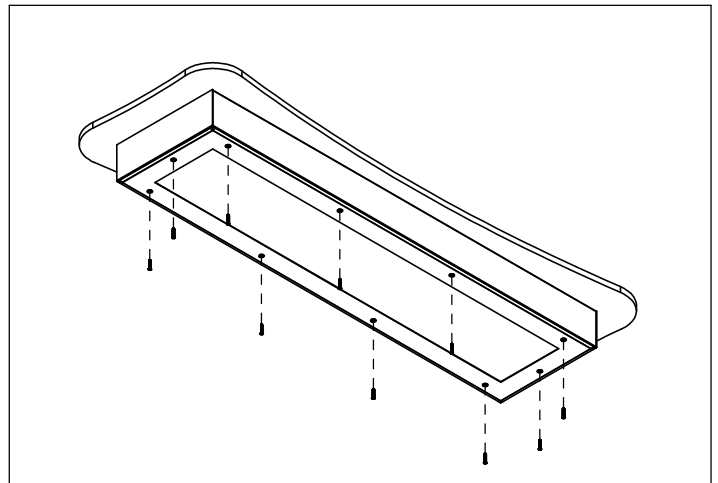

Figure 4
4. Re-attach LED gear tray to Housing and close fixture (Fig. 4)